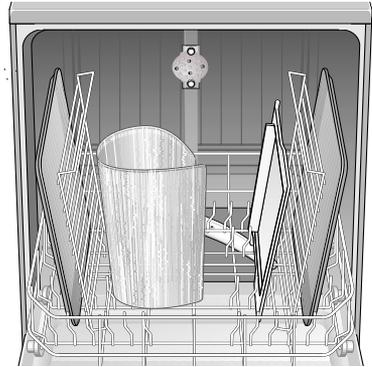

Figure 36
- Place the extra tall items in the bottom rack for washing, as shown in Figure 36. To remove the Extra Tall Item Sprinkler, turn it counterclockwise and pull it out. Then replace the top rack.